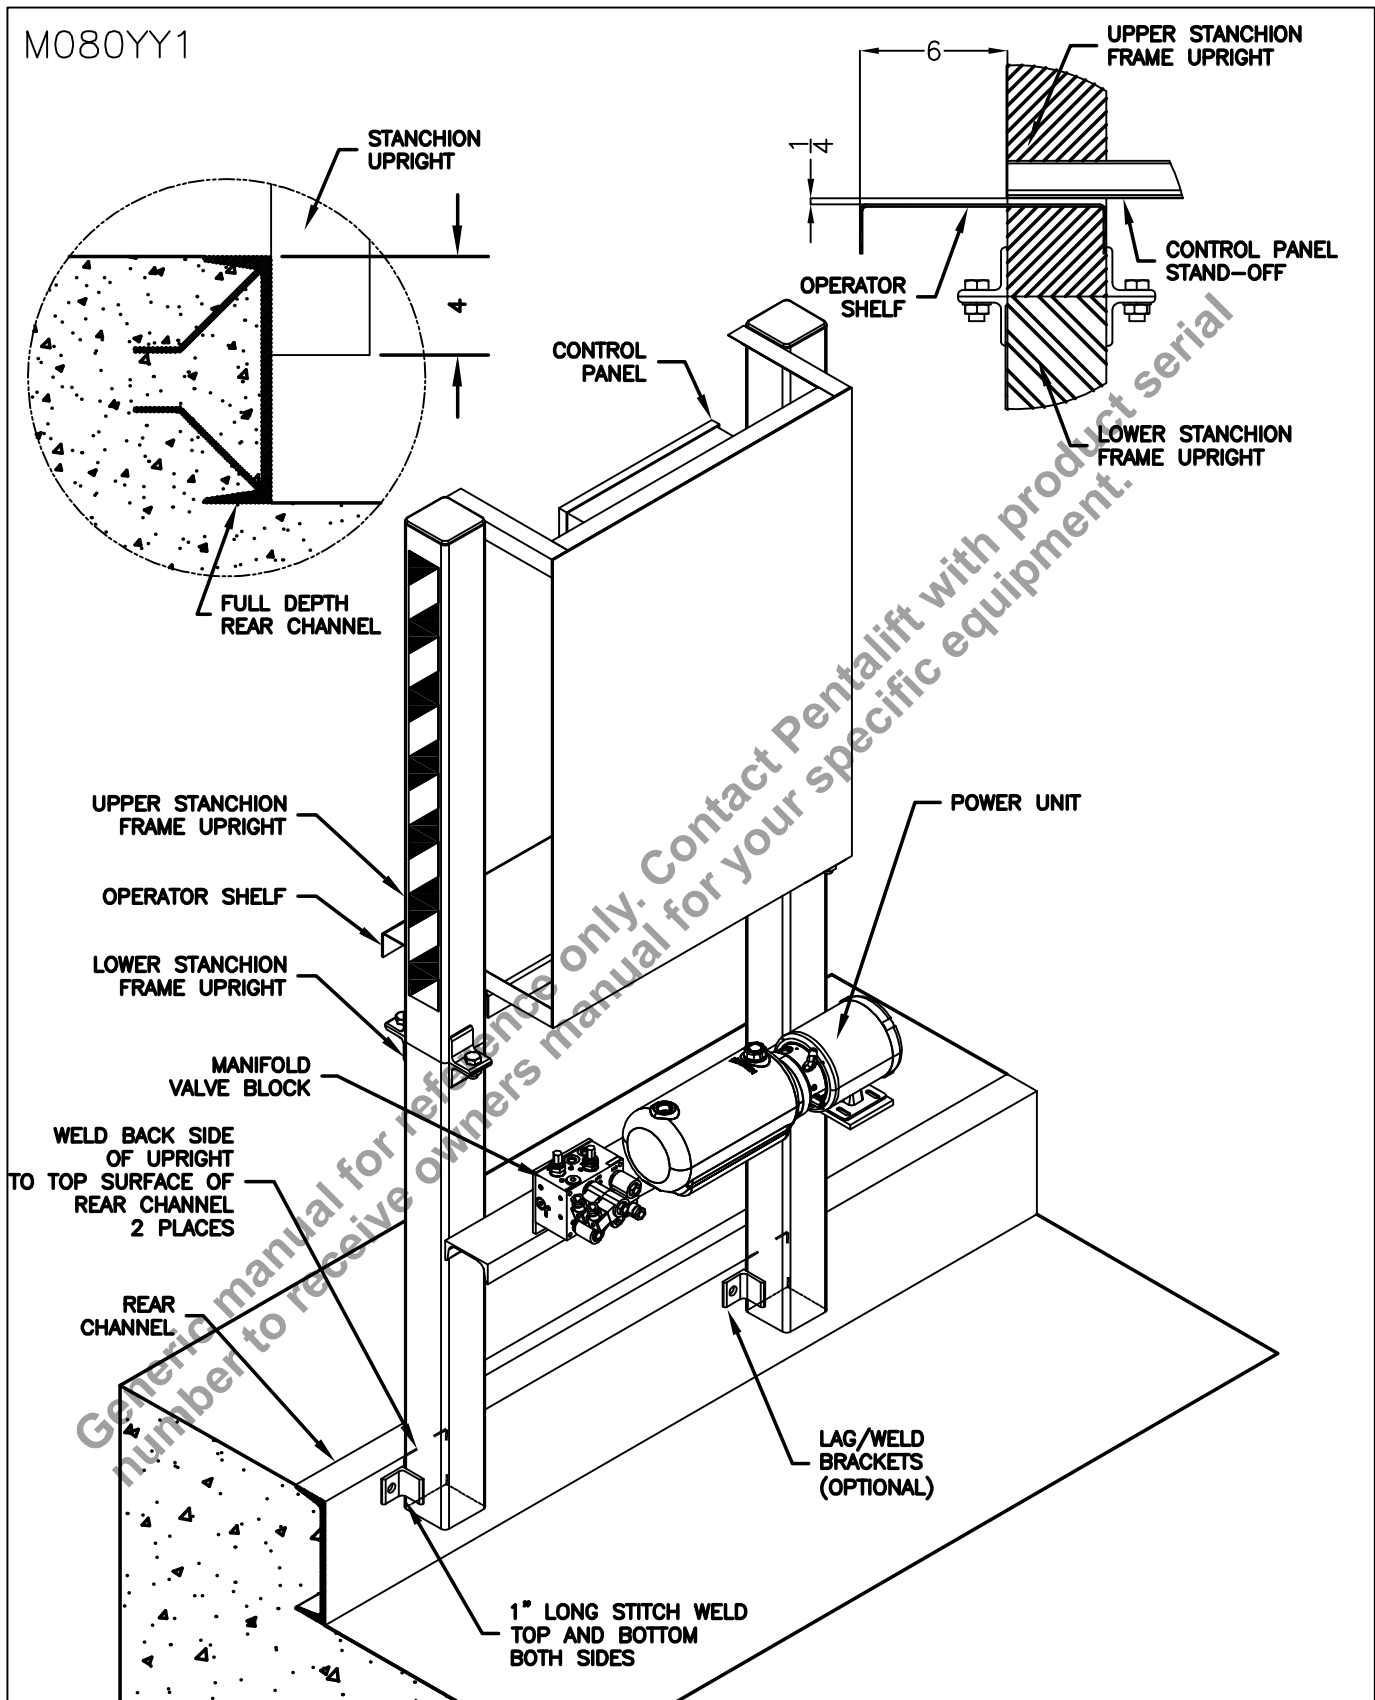

Figure 37: Full Depth Rear Channel Installation-Continuous Pit/Ledge
1. Position the lower stanchion frame upright 4 inches below the top of the rear channel and allow sufficient space between the stanchion and vertical storing dock leveler to avoid pinch points. Ensure the lower stanchion frame upright is vertically plumb and straight. This may require shimming between the back surface of the stanchion uprights and the front surface of the rear channel prior to welding the stanchion in place (see "Figure 37: Full Depth Rear Channel Installation-Continuous Pit/Ledge" on page 31).
2. Weld the lower stanchion frame upright to rear channel using 1" stitch welds top and bottom on both sides of the uprights - 4 places. Weld the back surface of the stanchion to the top surface of the rear channel - 2 places (see "Figure 37: Full Depth Rear Channel Installation-Continuous Pit/Ledge" on page 31).
4. Raise and lower the upper stanchion frame upright onto the lower stanchion frame upright and bolt and secure the two halves together with the supplied fasteners as indicated on "Figure 37: Full Depth Rear Channel Installation-Continuous Pit/Ledge" on page 31.
- Position the operator shelf between the uprights of the upper stanchion frame and below the control panel stand-off as indicated on "Figure 37: Full Depth Rear Channel Installation-Continuous Pit/Ledge" on page 31. Weld the operator shelf in place once it is properly positioned.